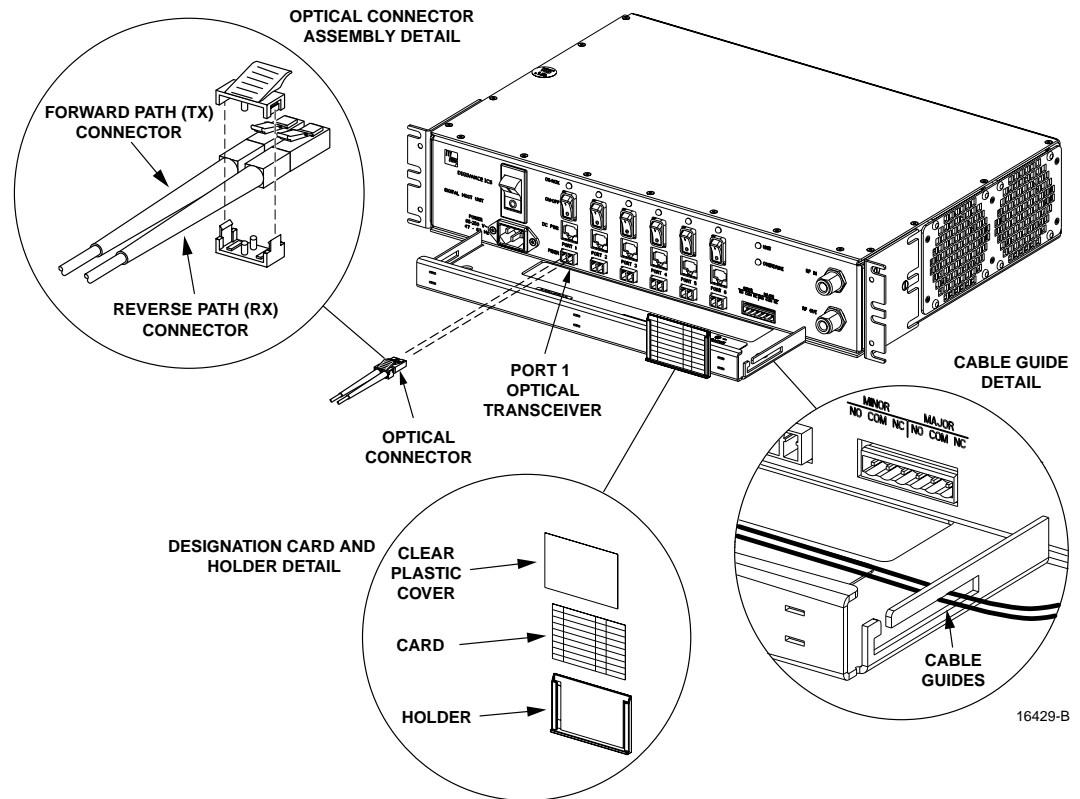

Figure 20. Ports 1–6 Fiber Optic Cable Connections
3. Terminate each optical fiber with a field-installable LC type fiber optic connector as shown in Figure 20. Follow the instructions provided by the connector manufacturer for installing the connector.
6. Use the plastic joiner provided with the LC connectors to join the DHU Port 1 forward and reverse path connectors together (see Figure 20). Make sure the **forward path** and **reverse path** connectors are oriented as shown.
8. Clean each connector (follow connector supplier's recommendations) and then insert the optical link connector pair into DHU optical port 1 (see Figure 20).
9. Place the optical fibers within the cable guides provided on the cable management tray (see Figure 20) and then dress and secure the fibers at the DHU per standard industry practice.
11. Use the designation card provided (see Figure 20) to indicate the location and name of the DRU or DEU that is connected to the optical fibers. The designation card holder may be attached to any convenient flat surface such as the DHU cable management tray